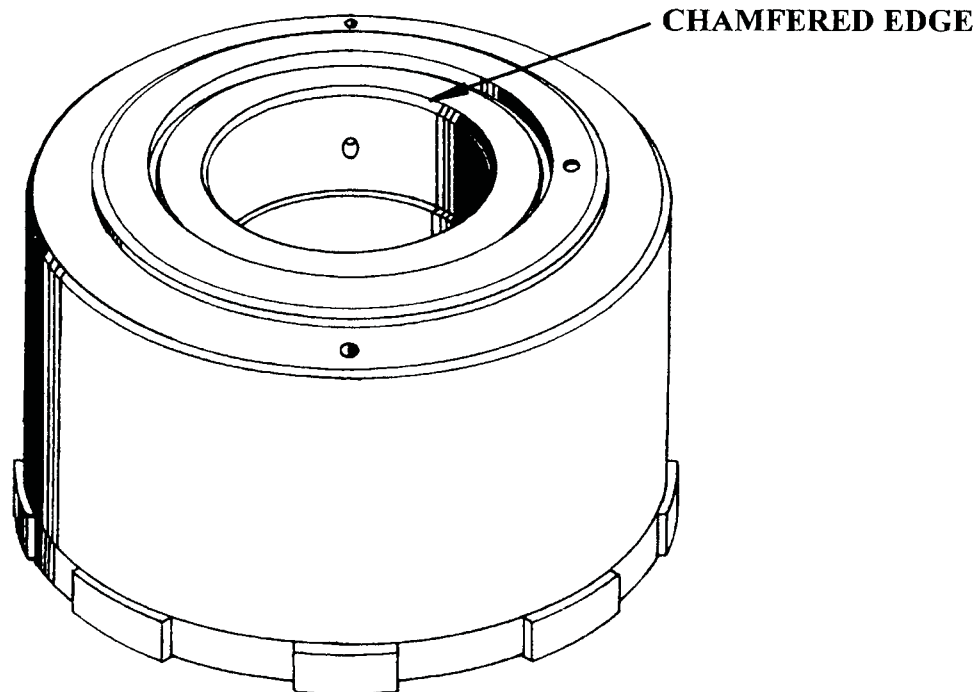

Figure 30
(1) **DIRECT CLUTCH DRUM - 1st Change:** Was changed from a stamped steel drum to a cast drum, and the sealing ring bore area was chamfered for ease of assembly (See Figure 30).